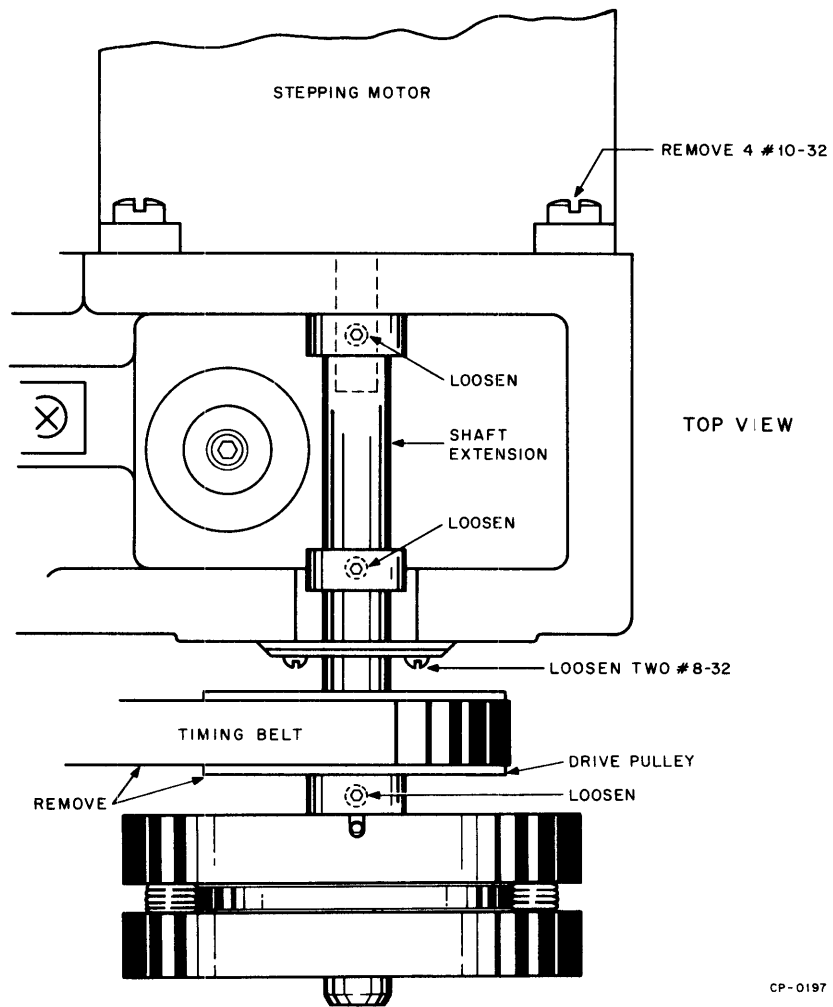

Figure 5-9 Stepping Motor Removal
5. Remove the drive belt (Paragraph 5.4.8, Step 4) from the drive pulley. Loosen the splined setscrew on the drive pulley collar. Remove pulley from motor shaft extension. Loosen splined setscrew on shaft extension collar and on ball bearing collar. Loosen two No. 8-32 screws securing ball bearing to casting. Remove four No. 10-32 screws holding motor. Remove motor, leaving shaft extension in place in machine (Figure 5-9).